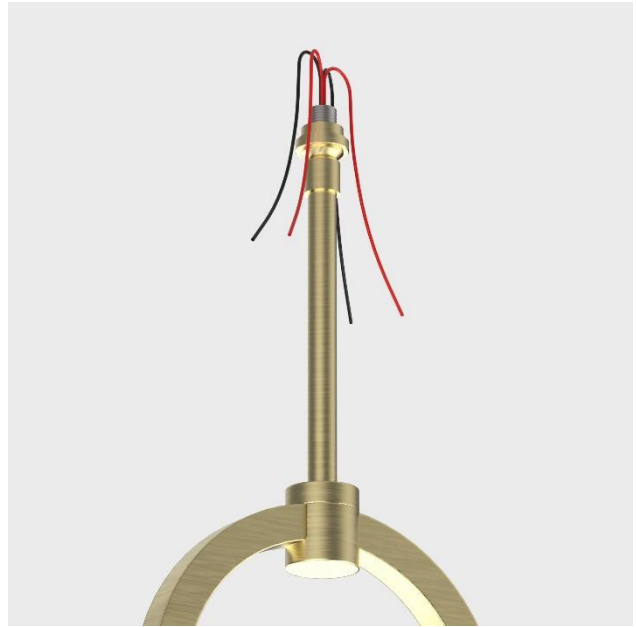

Figure 9
- Thread stems to top of the individual chain assembly (Figure 9).